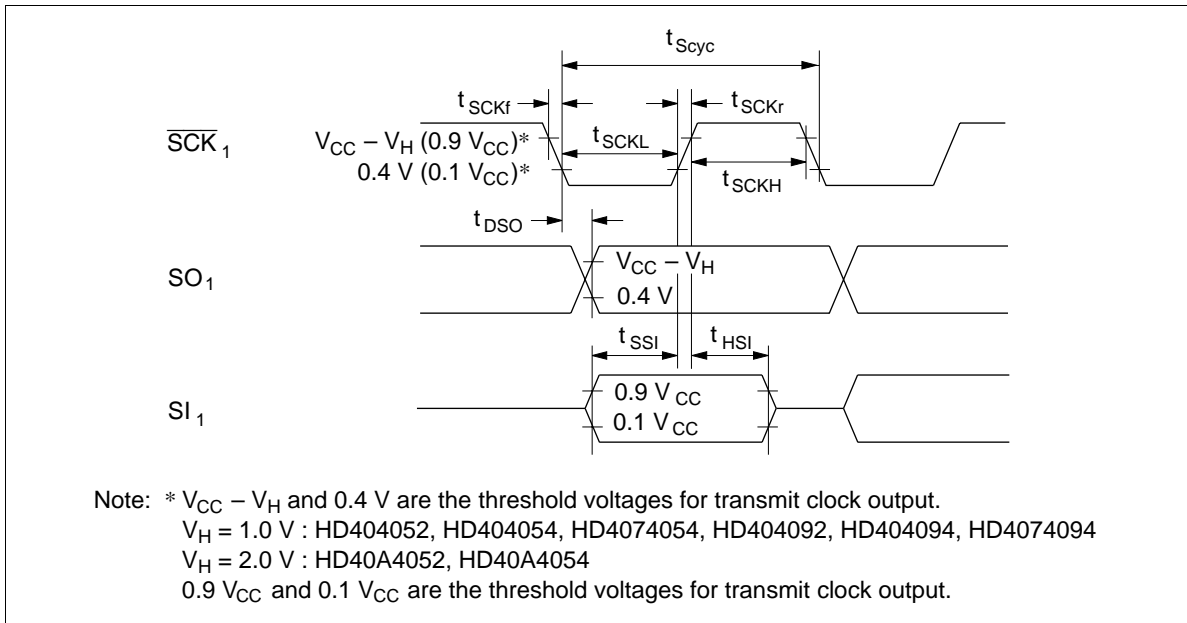

Figure 72 Serial Interface Timing
- Note: 1. Refer to figure 72.
1. Refer to figure72.